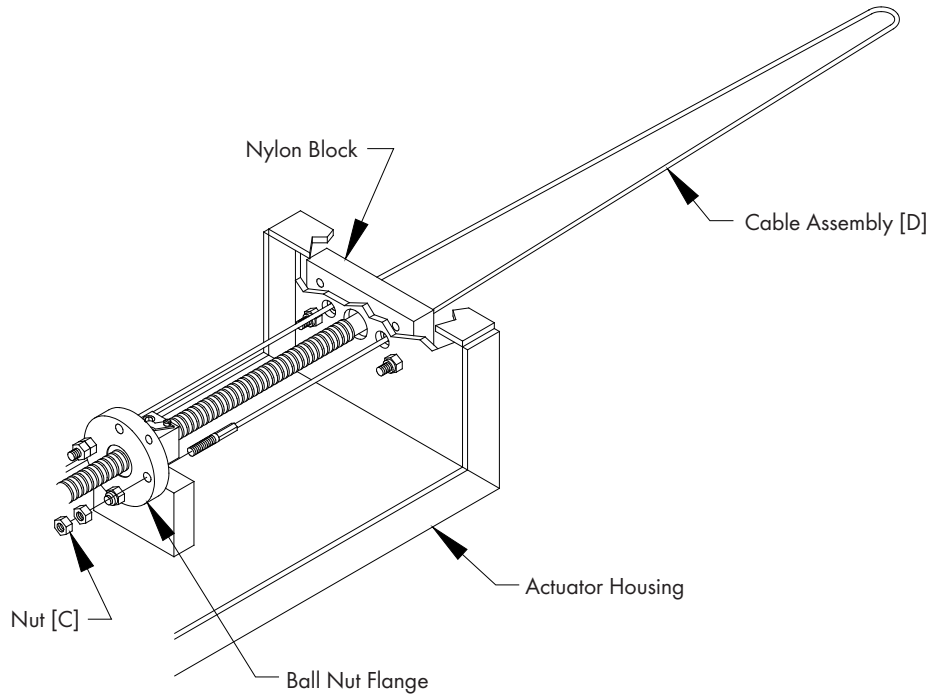

Figure 3
Fold Cable Assembly [D] in a “U” shape and insert 2 threaded ends through nylon block on end of actuator. Pull 2 threaded ends through and attach to the Ball Nut Flange using (4) Nuts [C]. See Figures 3.